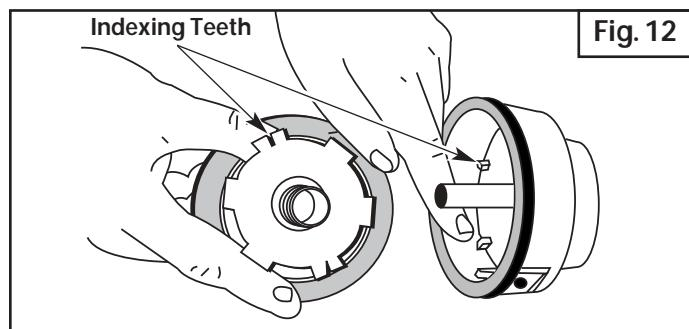

Fig. 12
5. Check the indexing teeth on the inner reel and outer spool for wear (Fig. 12). If necessary, remove burrs or replace the reel and spool.